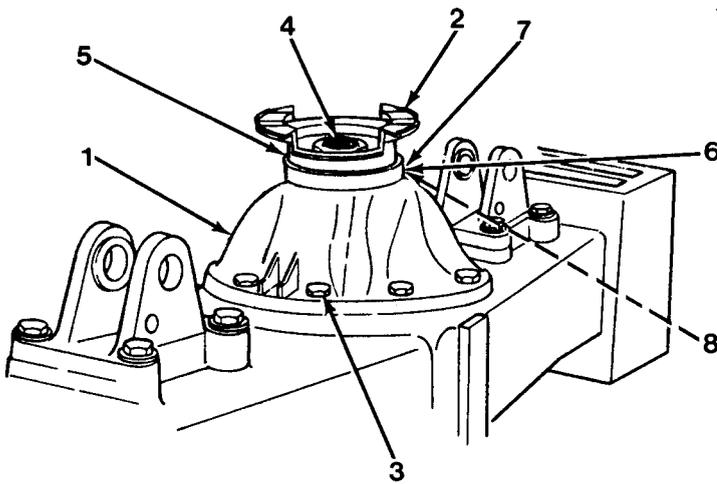
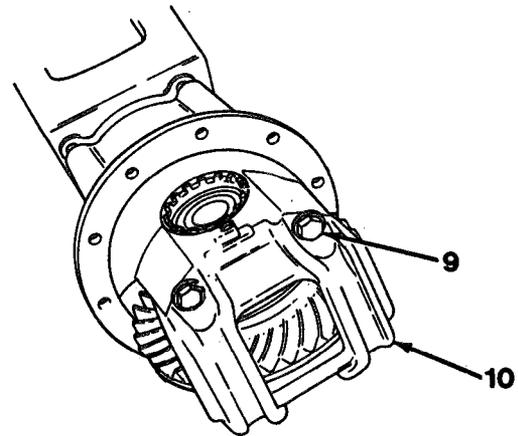

Figure 12-1
Figure 12-2
10. Remove pinion nut (4). Remove input yoke (2) and dust shield (5, Figure 12-1).
1. Heat spacer (7) to approximately 350 degrees F (176degrees C). Install spacer (7)and trunnion (6, Figure 12-1).
2. Lubricate and install new input yoke seal (8) flush.
3. Install input yoke (2), dust shield (5) and new pinion nut (4). Torque pinion nut (2) to 405 to 433 lb-ft (549 to 587 N•m. Stake pinion nut (4) in two locations 180 degrees apart.
4. If differential was disassembled, file off washer face of bolts (9) flush with machined surface of bearing cap (10, Figure 12-2).